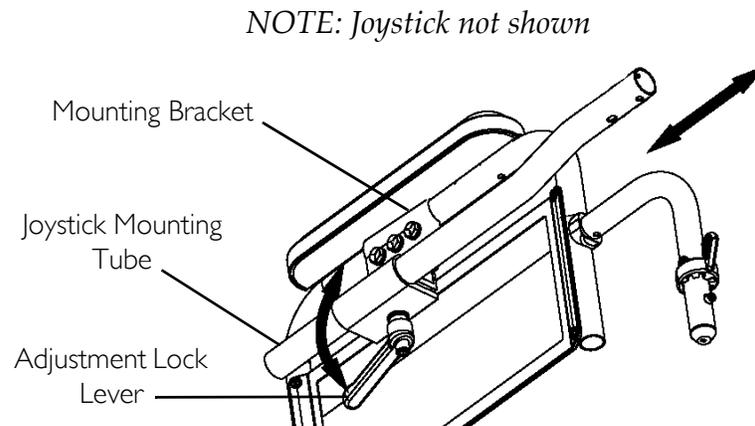

FIGURE 10.3 Preparing MK6i Joystick For Use
NOTE: For this procedure, refer to FIGURE 10.3.
1. Turn the adjustment lock lever to release the adjustment lock from joystick mounting tube (FIGURE 10.3).